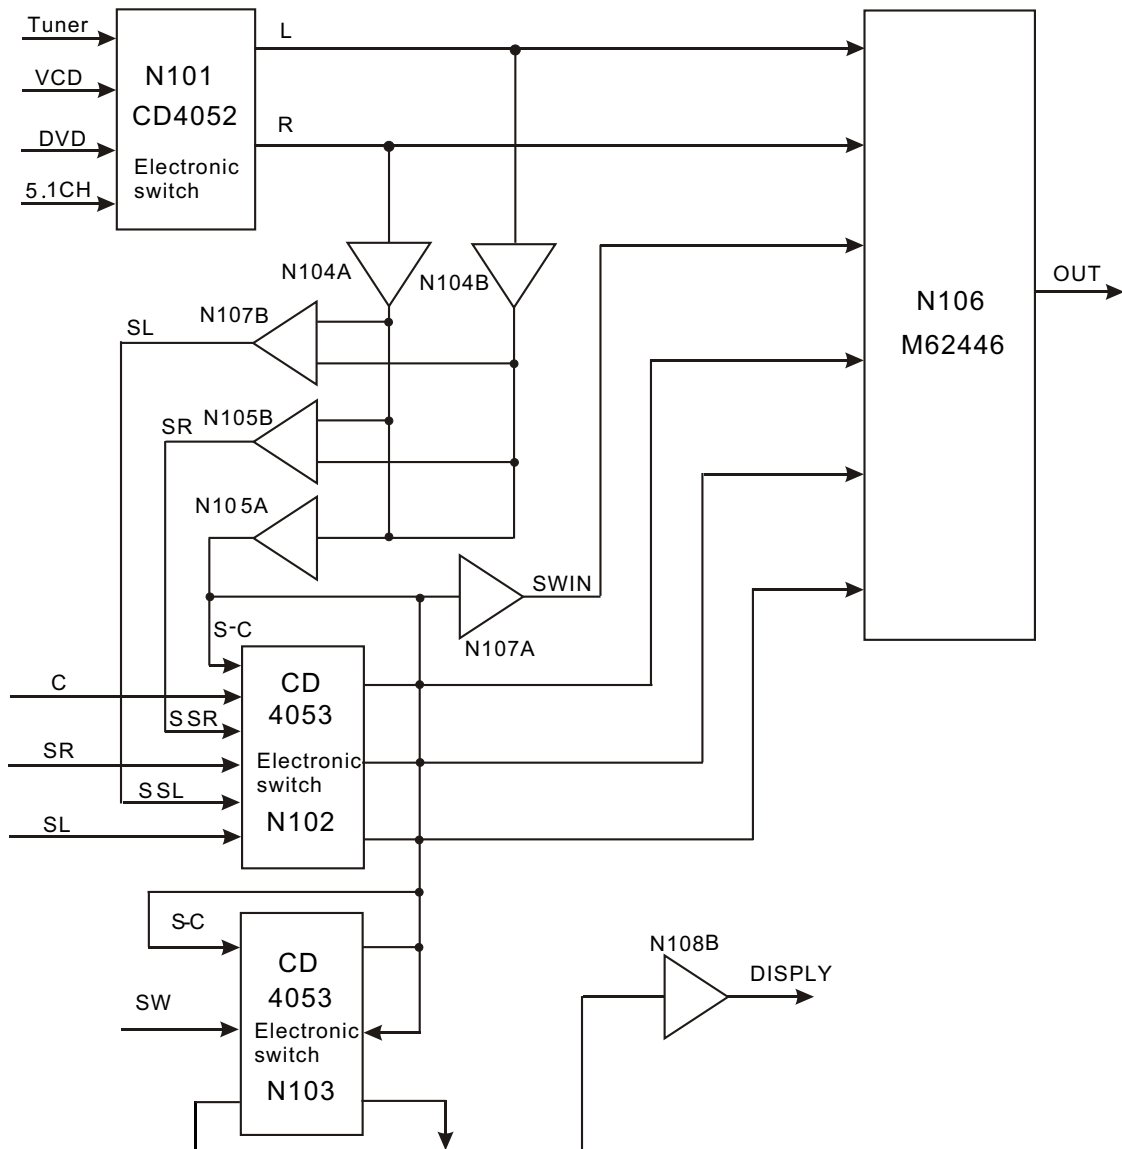

Figure 3.2.1.1 Volume board signalflow chart
AV225T (RU) has 4 kinds of input means in all: tuning input, VCD, DVD stereo input and 5.1CH input. The Cyber logic function of AV225T (RU) is to achieve C, SR, SL and SW signal through buffer and processing of adder and subtracter after sampling from L, R channels. In this circuit, electronic simulation switch is adopted to fulfil the switch in all kinds of state. Signal flow is shown as the following figure 3.2.1.1: